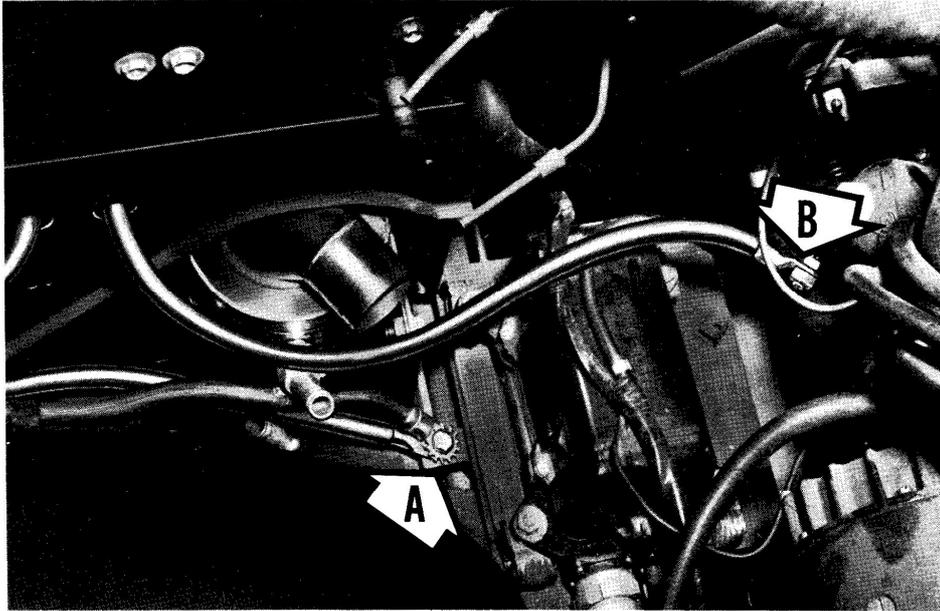

Fig. 12. (A) Negative lead connected to the vehicle ground post. (B) Positive lead connected to the starter switch terminal.
- e. Connect the positive lead, with the positive battery cable, to the starter switch terminal; and the negative lead, with the battery ground lead, to the vehicle ground post, Fig. 12.